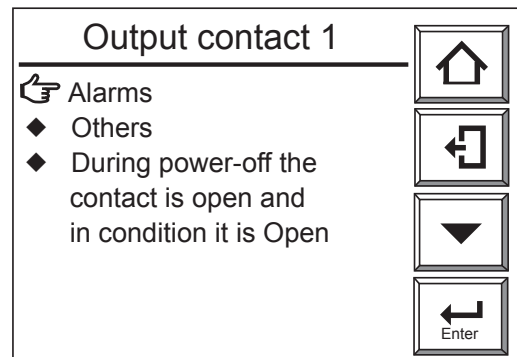
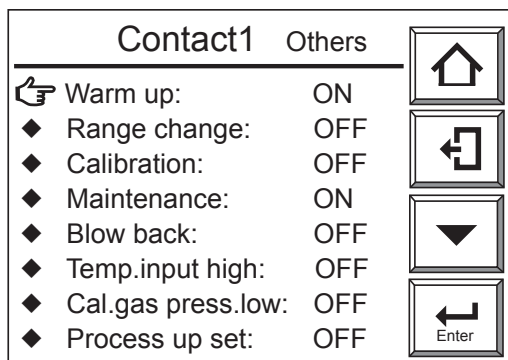

Figure 8.7 Output Contact 1 Display
Figure 8.8 “Contact1 Others” Display
- (4) Select the desired output contact. This section shows an example where “Output contact1” is selected (see Figure 8.7).
- (5) Each set item and the selected items are briefly described in Table 8.6. The following describes an example of setting where Output contact 1 is closed during calibration.
- (6) Select “Others” in the Output contact 1 display. The “Contact1 Others” display shown in Figure 8.8 then appears. Select “Calibration” in the Contact1 Others display.
- (7) The ON or OFF selection display then appears. Select “ON” herein.
- (8) Press the [Reject] key to go back to the previous display.
- (9) Move the pointer to “During power-off the contact is open and in condition it is Open” and press the [Enter] key. The “OFF” or “ON” selection display then appears. If you select “OFF,” this means “Open” in normal conditions and “Closed” when the contact output is on.